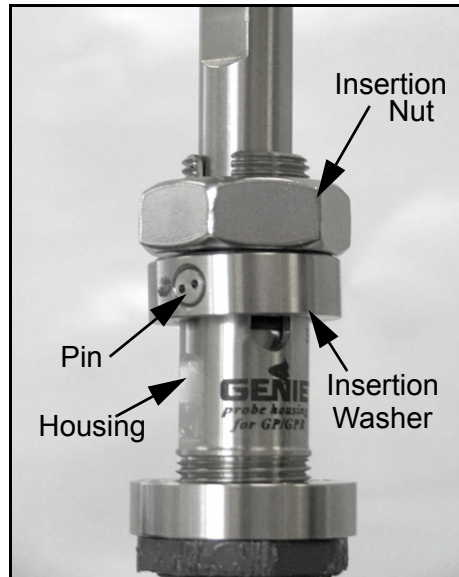

Figure 19: Threading the Insertion Nut
4. Thread the insertion nut down by hand, lowering the probe until the insertion washer pins slide to the bottom of the first vertical slot (see *Figure 19* below).